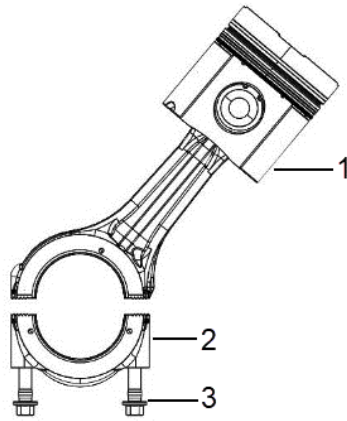

Figure 121.
5. Lower the connecting rod and piston (Figure 121, Item 1) until the connecting rod big end and its half bearing are in place on the crank pin.
6. Reinstall the connecting rod cap (Figure 121, Item 2). Fit the connecting rod bolts (Figure 121, Item 3) and fully engage the cap (turn the crankshaft to facilitate fitting of bolts).
7. Tighten the connecting rod bolts (Figure 121, Item 3) in following sequence: